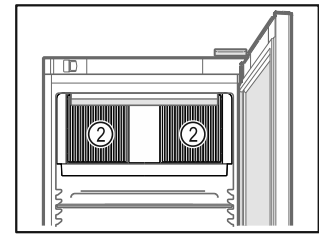

Fig. 74
- ❑ Ventilation slots Fig. 74 (2) for recirculation fan in the interior must be kept clear.